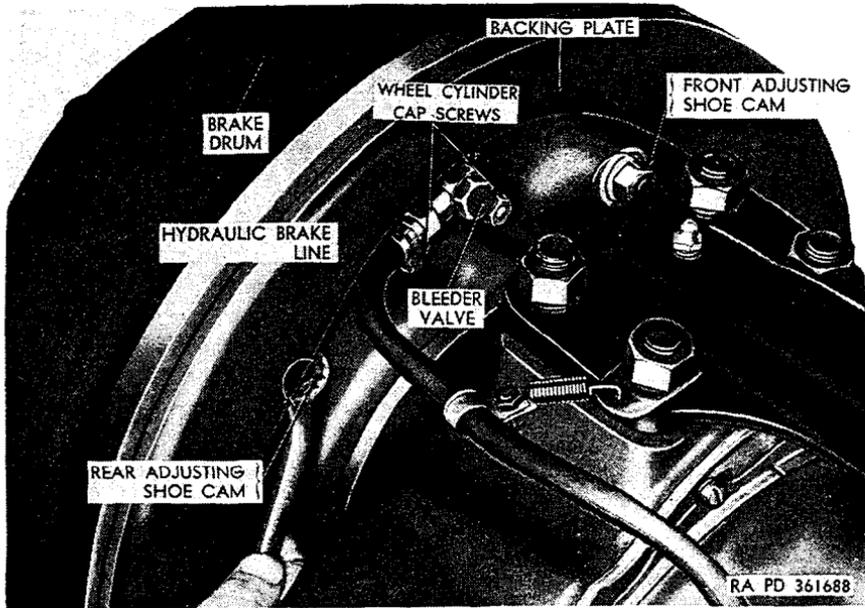

Figure 240. Turning adjusting shoe cam.
- (1) Adjust wheel bearings (par. 242) at one wheel.
- (2) Turn rear adjusting shoe cam (fig. 240) on back side of backing plate counterclockwise until brake drags slightly when wheel is turned by hand. Then turn adjusting cam clockwise just enough to allow wheel to rotate freely.
- (3) Turn forward adjusting shoe cam (fig. 240) clockwise until brake drags slightly when wheel is turned by hand. Then turn adjusting cam counterclockwise just enough to allow
- (5) If clearance between shoe and drum is incorrect, adjust clearance ((a) and (b) below).
- (a) Turn rear adjusting shoe cam (fig. 240) until clearance between shoe and drum, measured by feeler gage, is 0.020 inch. To reduce clearance, turn cam counterclockwise. To increase clearance, turn cam clockwise.
- (6) Adjust clearance between lower and upper ends of front brake shoe and drum ((2), (3), (4), and (5) above).
d. Bleeding Wheel Cylinders (fig. 240). Perform bleeding operations at each wheel cylinder (*b* above).